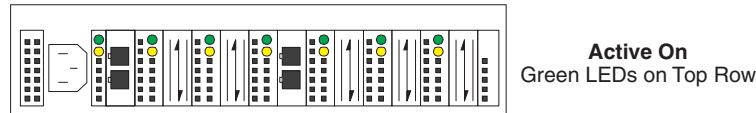

Figure 6. Type 3523 fibre-channel hub active on LEDs
3. Check the Device Active (green) LEDs on the fibre-channel hub ports. See Figure 6 on page 9.